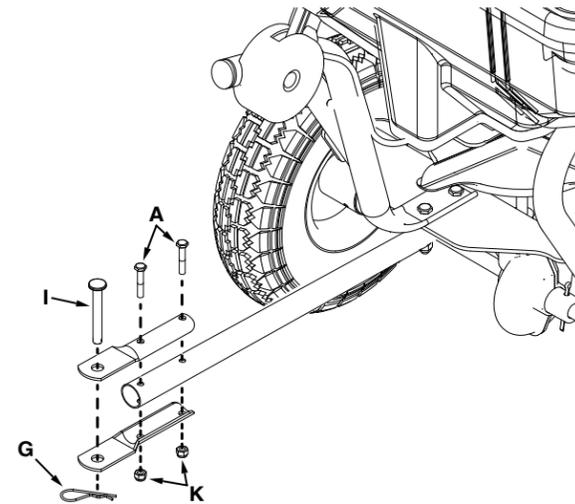

Figure 10
STEP 10 (SEE FIGURE 10): Attach the hitch brackets to the hitch tube using two 1/4 x 1-3/4" hex bolts (A) and nylock nuts (K). Insert the hitch pin (I) through the hitch brackets and secure with a hair cotter pin (G).